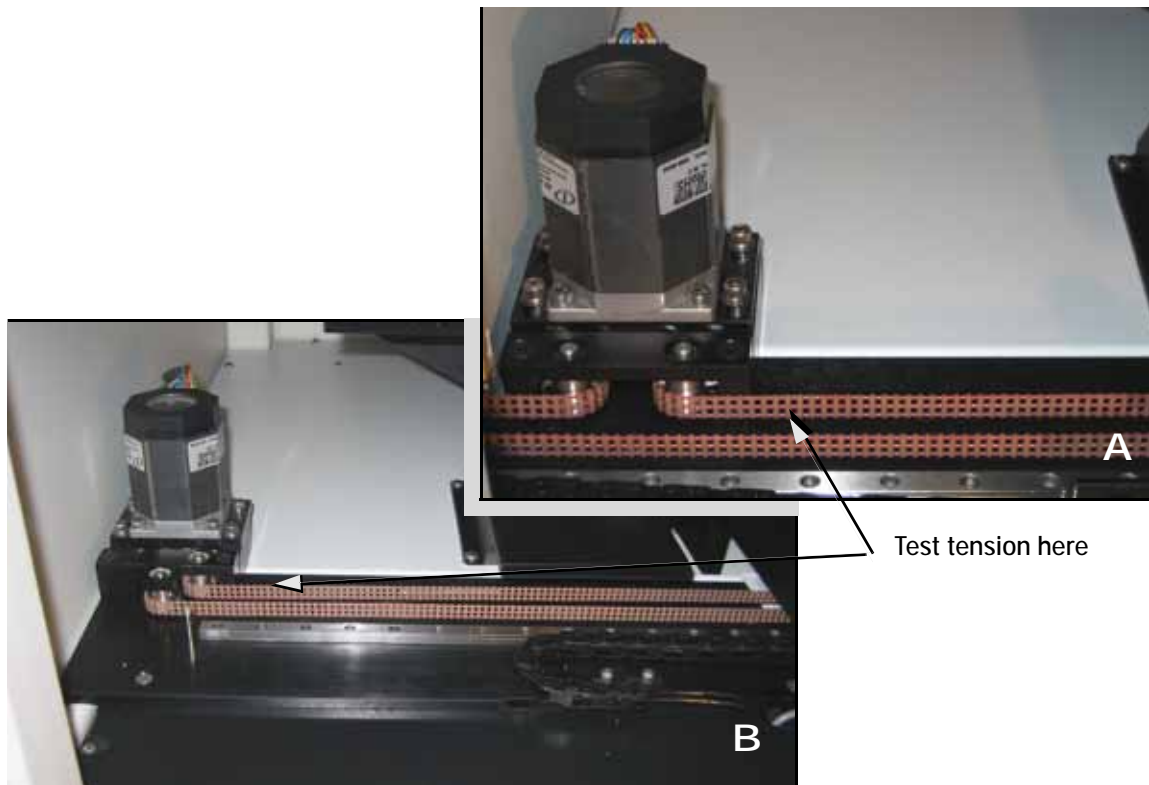

Figure 4-31: Marker Shuttle belt and motor, with Tape Out (A) and without (B).
3. Test the tension by pulling lightly on the center of the shuttle belt to the right of the motor. See *Figure 4-31*. If the belt moves more than 12 mm (0.5 inch) off its path, loosen the four motor mounting plate screws with a 4 mm hex key (see *Figure 4-32*),